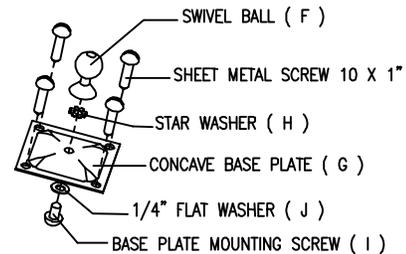
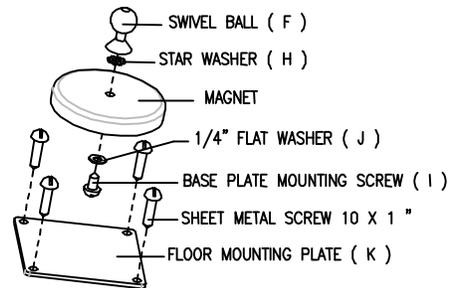

Figure 2 Concave Base Plate Assembly G10378
Figure 3 Magnetic Mount Assembly G10380
4. Use Base Plate Mounting Screw (I), Flat Washer (J), and Star Washer (H) to fasten Swivel Ball (F) to Concave Base Plate (G) (fig 2).
5. Repeat step 1 to assemble lower half of Flex Mount Extension Tube (A). Use Concave Base Plate Assembly (fig 2) for a solid floor mount or Magnetic Mount Assembly (fig 3) for a removable mount.
6. To install Magnetic Mount, repeat step 4 replacing Concave Base Plate Assembly (fig 2) with Magnetic Mount Assembly (fig 3).
7. Concave Base Plate Assembly (fig 2) or Floor Mounting Plate (K) (fig 3) should be mounted directly to the floor using (4) Sheet Metal Screws provided.